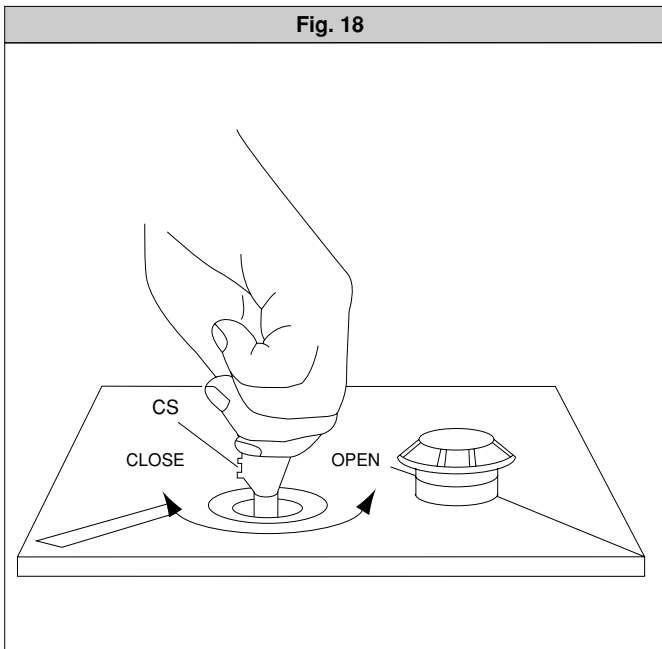

Fig. 19
- i) Restore the oil level, checking that it just reaches below cap "O" (fig.19). Top up with IDROLUX oil of the same type.